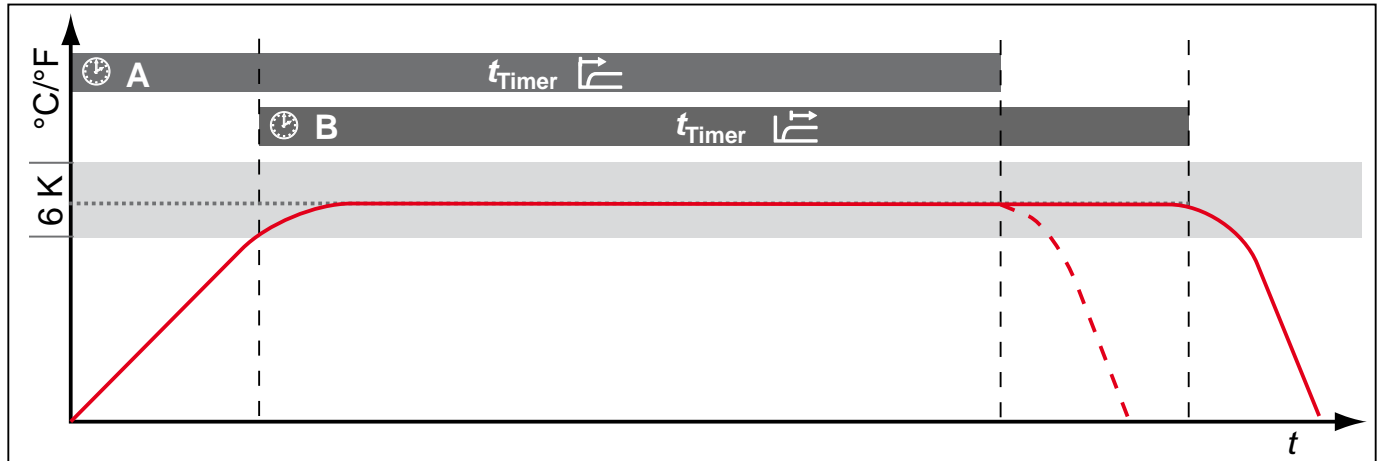

Fig. 26 Timer mode
Here, you can choose whether the digital backwards counter with target time setting (see page 30, timer) should run setpoint-dependent or not – this determines whether the timer should not start until a tolerance band of ± 3 K around the set temperature is reached (Fig. 26, B) or whether it should start right after activation (A).